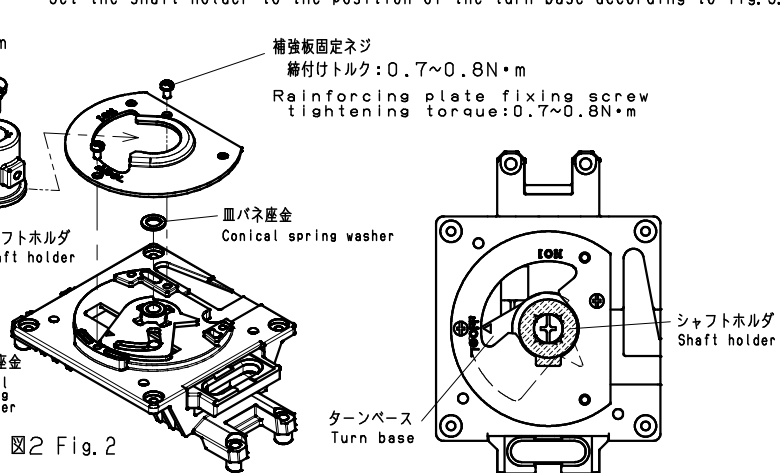

図2 Fig. 2
(2) シャフトホルダの取付け (図2)
(1) Removing the latch
(2) Mounting the shaft holder (Fig. 2)